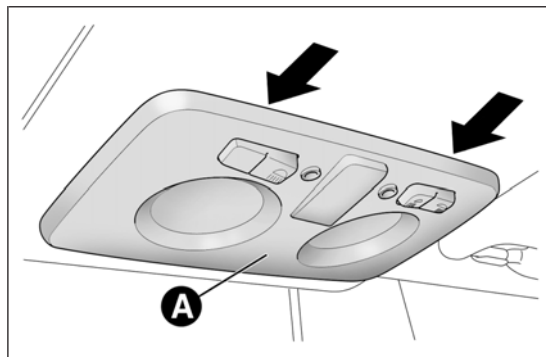
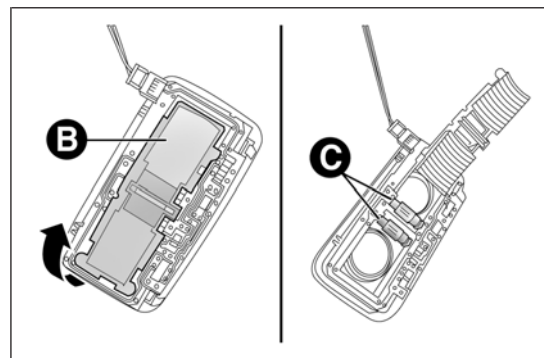

fig. 140
fig. 141
- remove the roof light A fig. 140 working at the points indicated by the arrows;
- open the flap B fig. 141 and replace the bulbs C releasing them from the side contacts. Make sure that the new bulbs are correctly secured between the contacts;
- reclose the flap B fig. 141 and fix the roof light A fig. 140 in its housing making sure that it is locked.